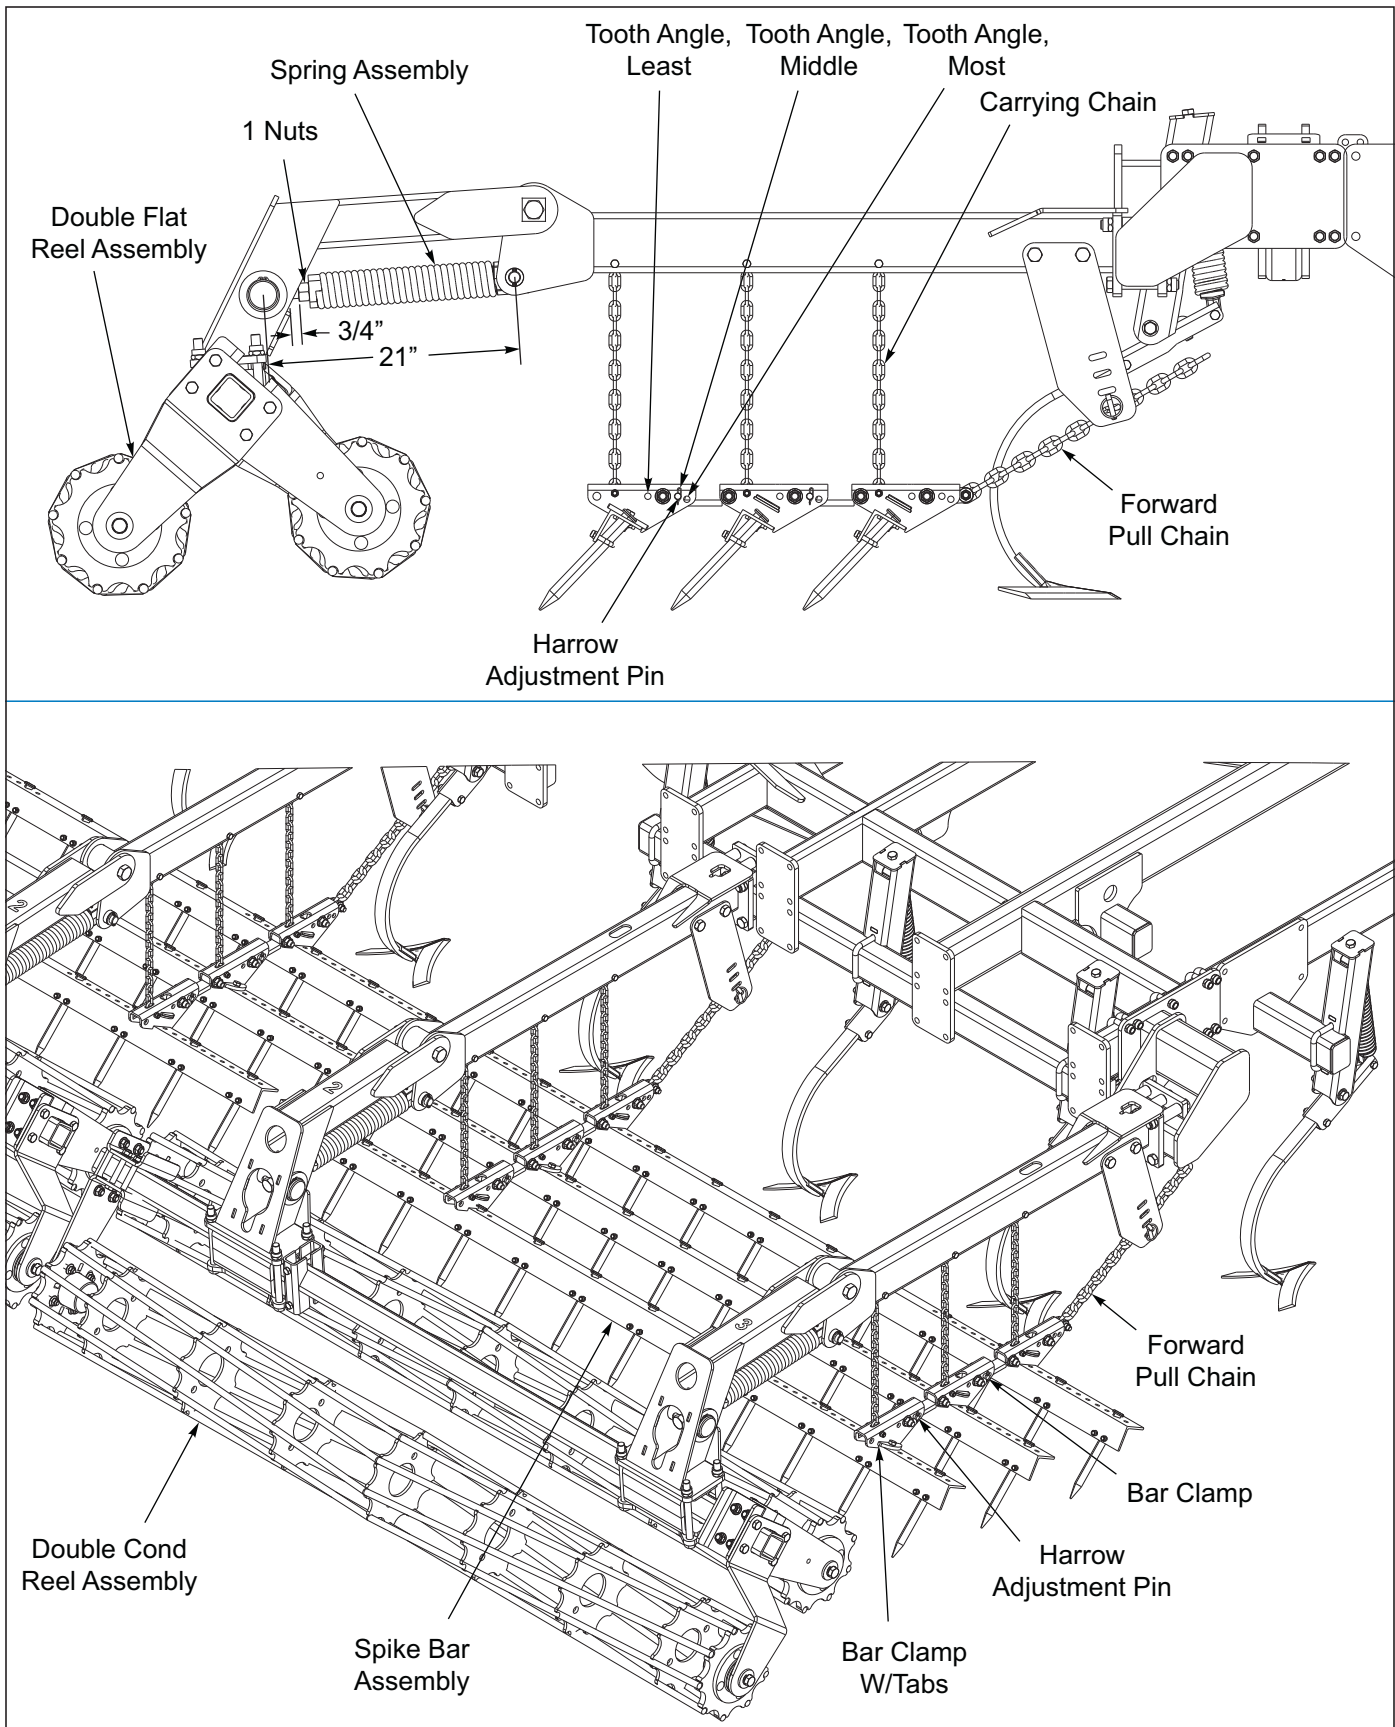

Figure 4-24: 3RS DBL Flat Reel Adjustments
- For the most aggressive spike tooth action, install the harrow adjustment pin in the forward mounting hole over each bar clamp for each spike bar See Figure 4-24. This will position the spike teeth to be in the most vertical position. In wetter or conditions with some residue, lower the spike tooth angle by positioning the harrow adjustment pin in the middle or rear hole. This will allow the teeth to lay flatter and shed more residue.